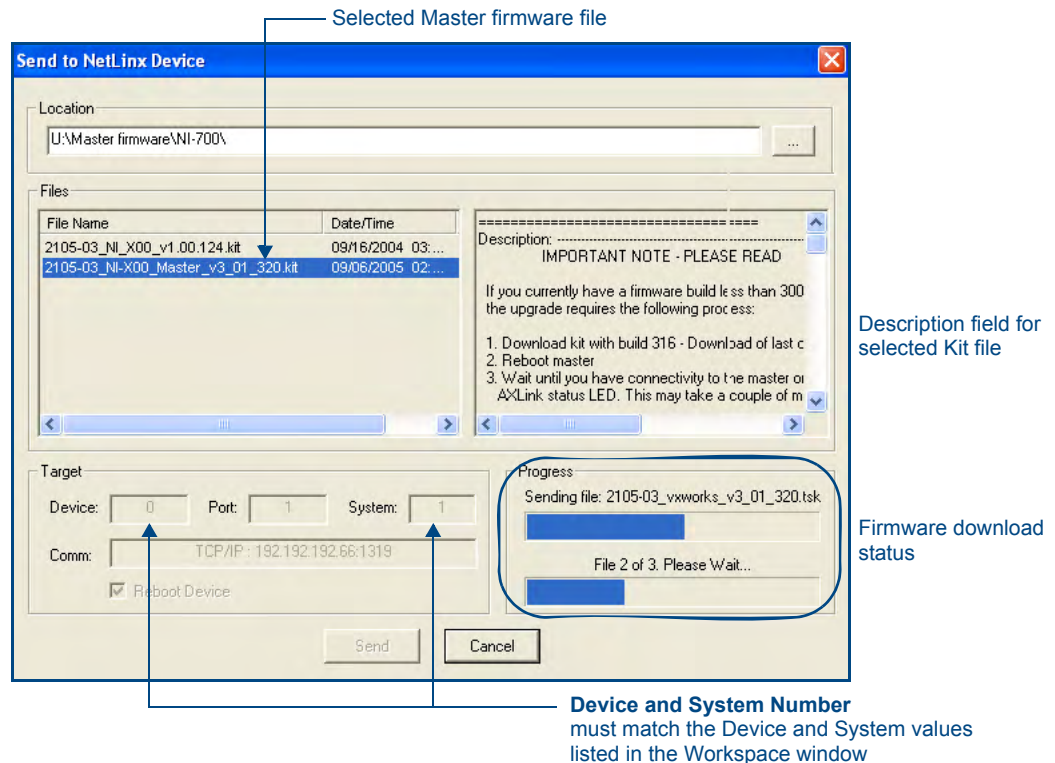

FIG. 6 Send to NetLinx Device dialog (showing on-board NI_Master firmware update via IP)
7. In NetLinx Studio, select **Tools > Firmware Transfers > Send to NetLinx Device** to open the Send to NetLinx Device dialog (FIG. 6). Verify the target's System number matches the value listed within the active System folder in the **OnLine Tree** tab of the Workspace.
8. Select the NI Master's Kit file from the **Files** section (FIG. 6).
11. Click **Send** to begin the transfer. The file transfer progress is indicated on the bottom-right of the dialog (FIG. 6).